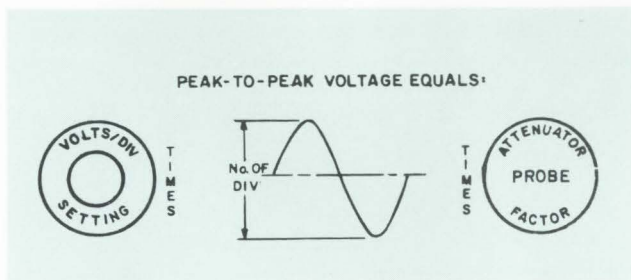

Figure 2-3. Peak-To-Peak Voltage Measurements
1. Using the calibrated scale, measure the vertical deflection in graticule divisions from the positive peak to the negative peak of the waveform. See Figure 2-3.